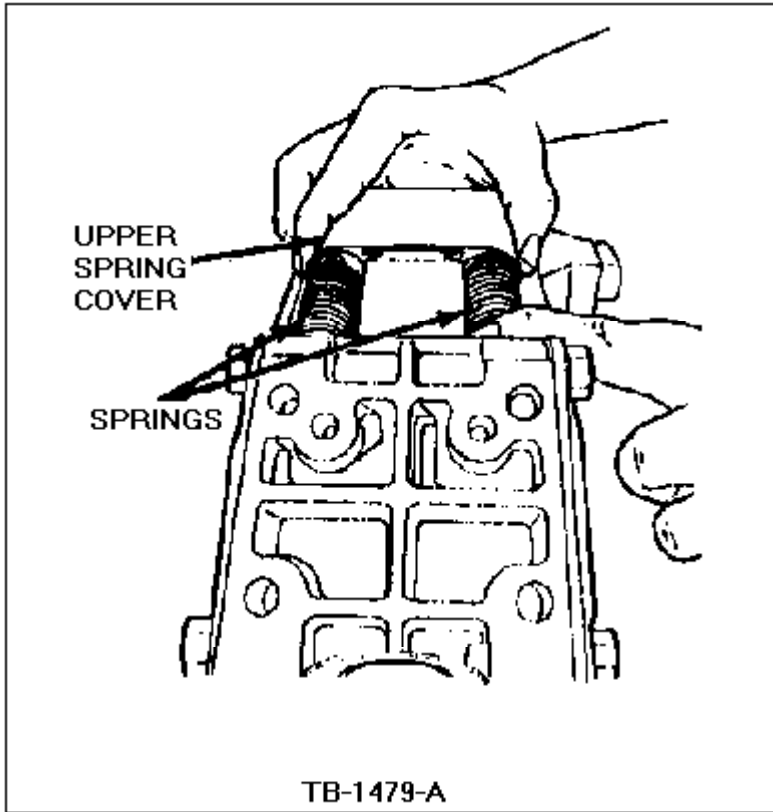

Figure 12 - Article 90-5-10
14. Remove the upper spring cover, Figure 12.